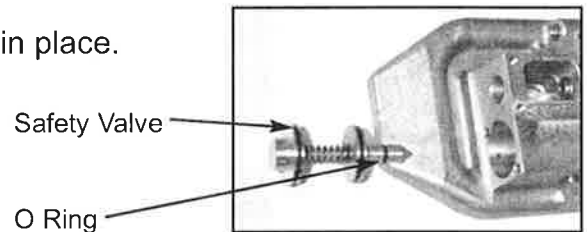

Figure 2
**See Figure 2.** Use a 2.5mm allen wrench.